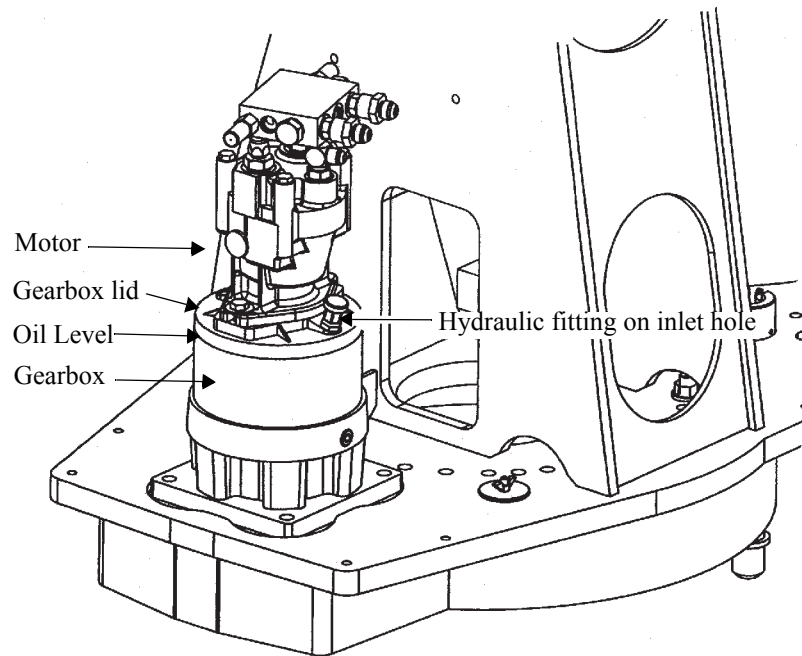

Figure 40 - Location of drain hole
1. Hold an empty container (60 oz. (1.7 liters)) under the drain hole of the gearbox (see *Figure 40*, below).
5. Unscrew the hydraulic fitting on the top of the gearbox (see *Figure 40*, above).
6. Fill the gearbox with new oil to the bottom of the gearbox lid as shown in *Figure 40*, above. This completely covers the sun gear with oil (you must look in the hole where you are pouring the oil to see the level of the oil).